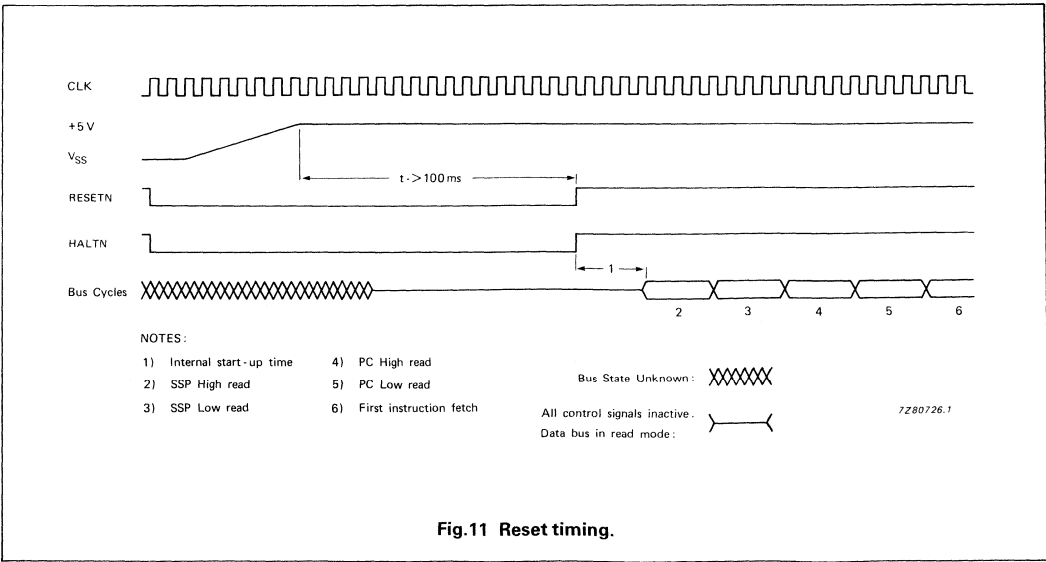

Fig.11 Reset timing.
When the CPU executes a RESET instruction, the RESETN signal is driven LOW for 146 clock cycles to reset internal and external peripherals. In this case the CPU itself is not affected, but all on-chip peripherals are reset. When both the RESETN and HALTN signals are driven LOW by an external device, the CPU and on-chip peripherals are reset. The CPU responds by reading the reset vector table entry (vector number zero, address 000000 HEX) and loads it into the Supervisor Stack Pointer (SSP). Vector table entry number one (at address 000004 HEX) is read next and loaded into the Program Counter (PC). The CPU then initializes the Status Register (SR) to an interrupt level of seven and instruction execution is started (see Fig. 11).